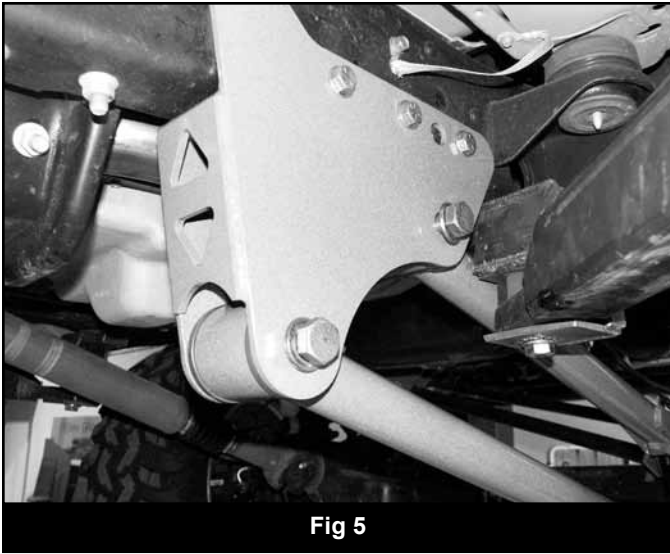

Fig 5
14. Install the assembled upper control arm in the new frame bracket and fasten with a $\frac{3}{4}$ " x 5-1/2" bolt, nut and $\frac{3}{4}$ " SAE flat washers from bolt pack #432. The two tabs on the control arm go up. Leave hardware loose. (Fig. 5)